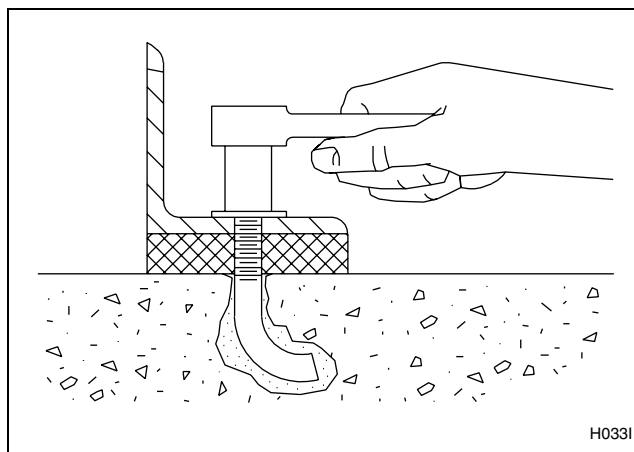

Figure 16
7. If grouting is not desired, position washers and locknuts on J-bolts and tighten the locknuts by even increments – one after the other – until all are tightened evenly and the machine is fastened securely to the floor. Refer to *Figure 16*.
11. After the grout is completely dry, tighten locknuts by even increments – one after the other – until all are tightened evenly and the base frame is fastened securely to the floor. Refer to *Figure 16*.